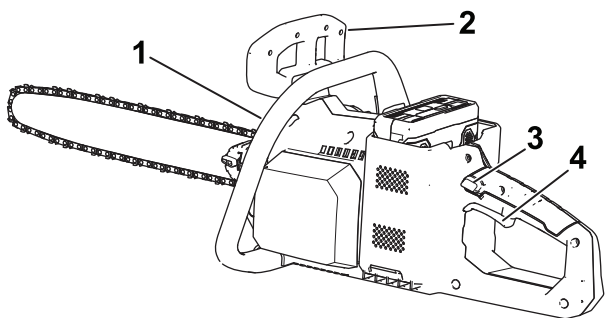

Figure 10
- With 1 hand on the front handle and the other on the rear handle, press the trigger lock, then squeeze the trigger (Figure 10).